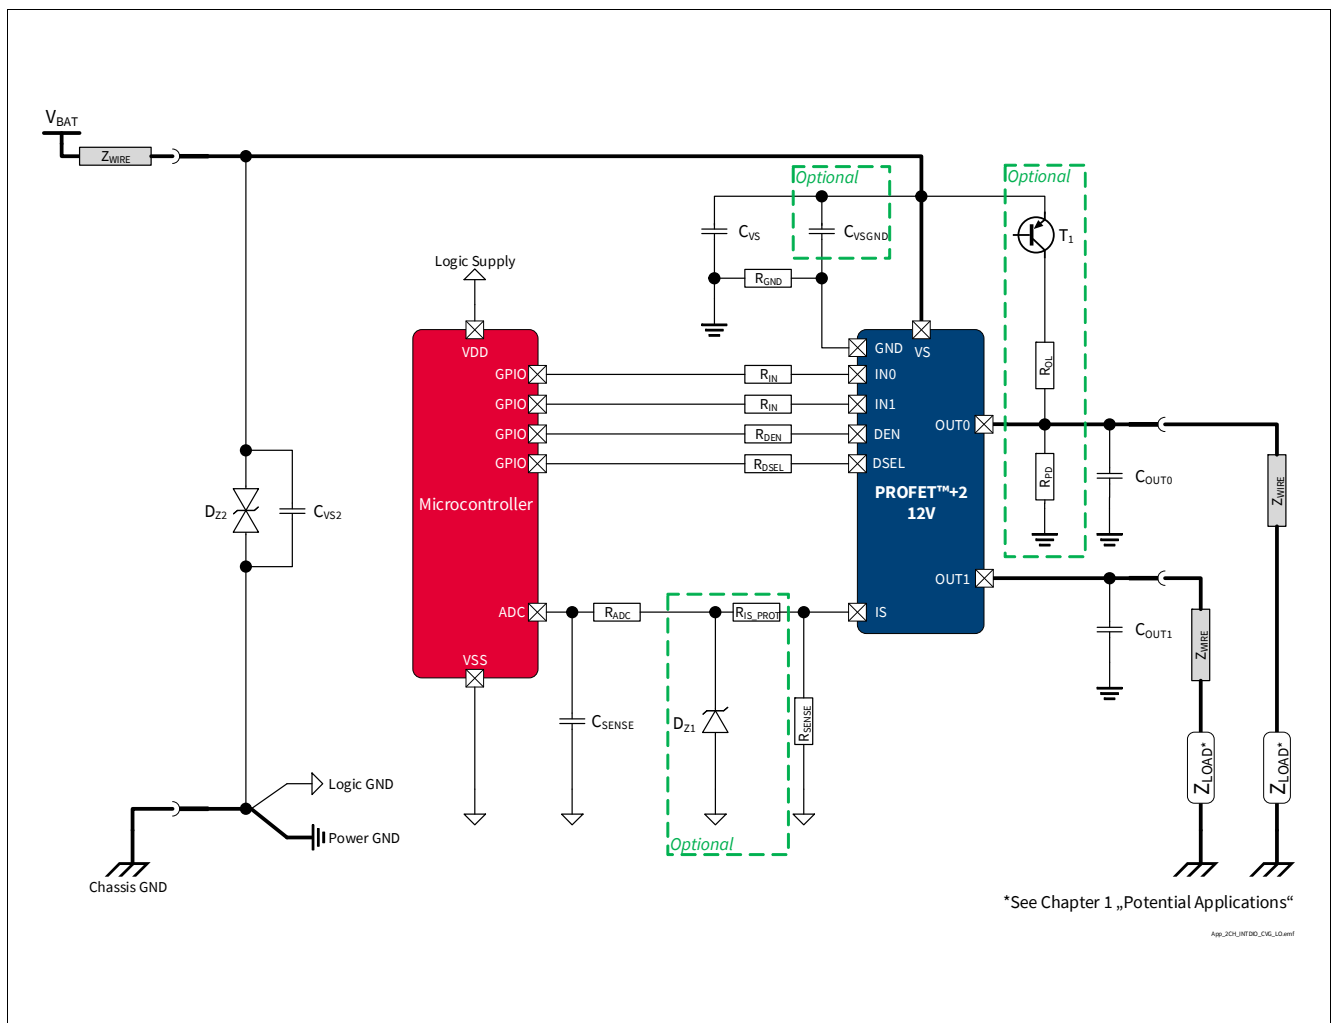

Figure 43 BTS7012-2EPA Application Diagram
1.05 , 2019-10-15	<p>P_8.7.3.1, P_8.7.3.7, P_8.7.3.8 updated (added in Note or Test Condition: link to Figure 25)</p> <p>P_7.5.3.4, P_7.5.3.5 updated (added in Note or Test Condition: DEN = “low”; link to Figure 19)</p> <p>P_7.5.3.12 updated (added in Note or Test Condition: see Figure 21; deleted unnecessary space in Symbol: dVOUT / dt → dVOUT / dt)</p> <p>P_8.7.3.6 updated (added in Note or Test Condition: see Figure 26)</p> <p>P_9.7.3.1 updated (added in Note or Test Condition: See Figure 34)</p> <p>P_9.7.3.6 updated (Min./Typ./Max.: -45%/4800/+45% → -34.0%/4875/+34.0%)</p> <p>P_9.7.3.9 updated (Min./Typ./Max.: -38%/4800/+38% → -25.0%/4875/+25.0%)</p> <p>P_9.7.3.12 updated (Min./Typ./Max.: -34%/4800/+34% → -22.5%/4875/+22.5%)</p> <p>P_9.7.3.15 updated (Min./Typ./Max.: -22%/4800/+22% → -12.5%/4875/+12.5%)</p> <p>P_9.7.3.17 updated (Min./Typ./Max.: -9%/4800/+9% → -7.7%/4875/+7.7%)</p> <p>P_9.7.3.19 updated (Min./Typ./Max.: -6%/4800/+6% → -4.5%/4875/+4.5%)</p> <p>P_9.7.3.21 updated (Min./Typ./Max.: -5%/4800/+5% → -4.0%/4875/+4.0%)</p> <p>P_7.5.3.11 updated (added in Note or Test Condition: see Figure 19)</p> <p>Figure 1, Figure 43 updated</p> <p>Chapter 1 updated (or LED equivalent → or equivalent electronic loads (e.g. LED modules))</p> <p>P_4.3.0.7 added</p> <p>Table 24 updated</p> <p>Chapter 5.1 updated (added: see Chapter 10 for the complete application setup overview)</p>